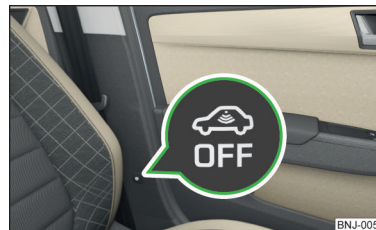

Fig. 49
- ▶ Press the  button on the centre column on the driver side » Fig. 49; the  symbol lights up in the button.